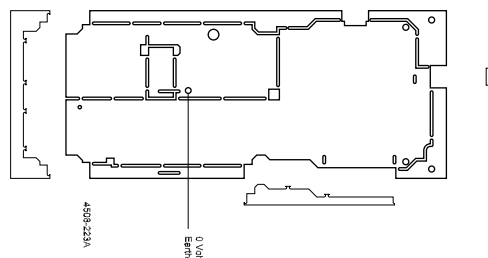

Figure 5.8: Frame 4 to 7 Control Board Biscuit
- 8) The replacement Control board will be in biscuit format. It will have to be trimmed to the same size as the existing board size as per figure 5.8. This is done with a fine pair of side cutters.